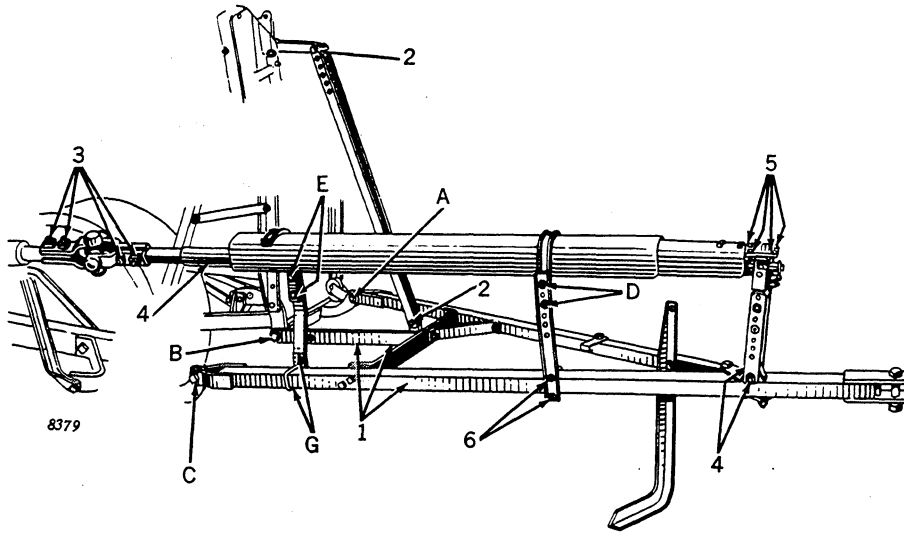

Figure 75
1. (Figure 75) Bolt center pull strap to hitch. Fasten tractor hitch to binder with pins and cotters at "A," "B," and "C." Insert pin at "A" toward platform.
2. (Figure 75) Attach tilting lever connection straps with adjusting holes at the top.
4. (Figure 75) Slide telescoping pipe onto square shaft and bolt front bearing lower support bracket to tractor hitch as shown.
5. (Figure 75) Bolt power shaft front shield support plate to top of power shaft bearing housing as shown. Do not tighten rear pair of bolts.
6. (Figure 75) Bolt shield adjustable support arms to brackets on power shaft long shield as shown at "D" and "E," Figure 75. Insert carriage bolts from inside. Bolt adjustable support arms to hitch pipe with U-bolts furnished. Place support arm with the greater offset to rear, on hitch pipe.
NOTE: Height of shield is adjustable at "D" and "E," Figure 75, so it will work with all hook-ups.